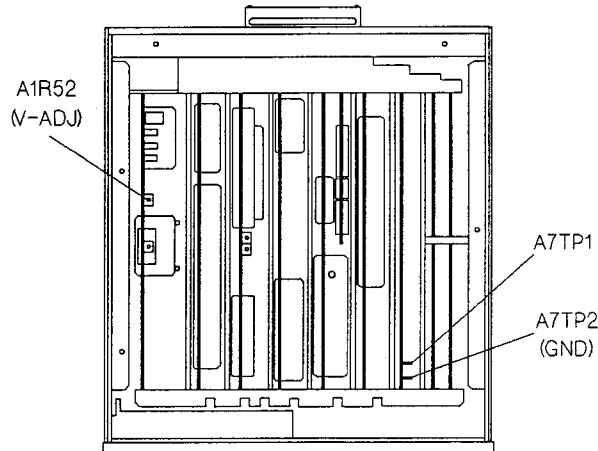

Figure 2-7. Power Supply Voltage Adjustment Location
4. Connect the multimeter's Lo input to A7TP2 (**GND**), and connect the Hi input to A7TP1. Figure 2-7 shows the location of A7TP1 and A7TP2.
5. Turn A1R52 (**V-ADJ**) fully **CCW** (Counter Clock Wise). Figure 2-7 shows A1R52's location.